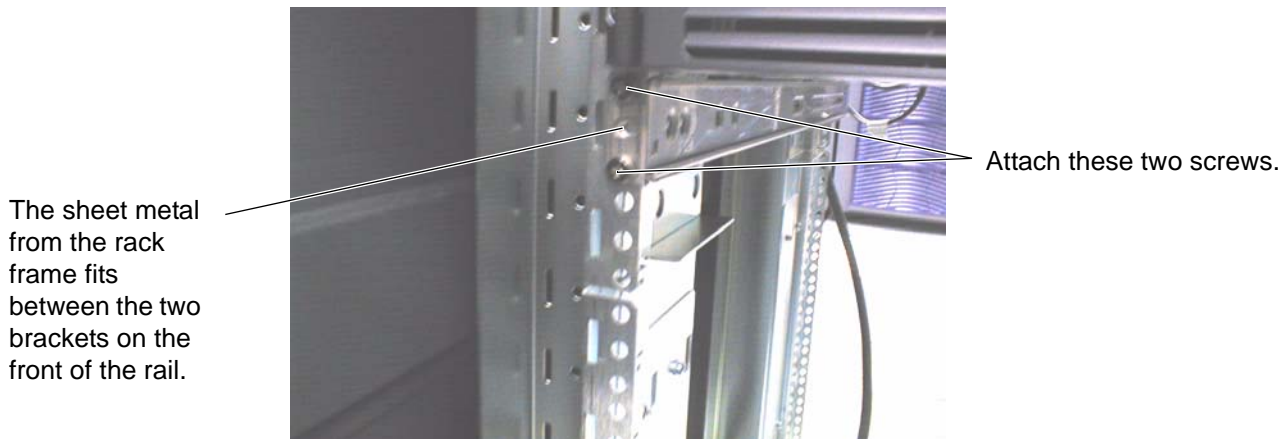

Figure 2-4 Attaching the Rail to the Front of the Rack (View from Front of Rack)
4. Attach the rail to the front of the rack chassis (refer to Figure 2-4):